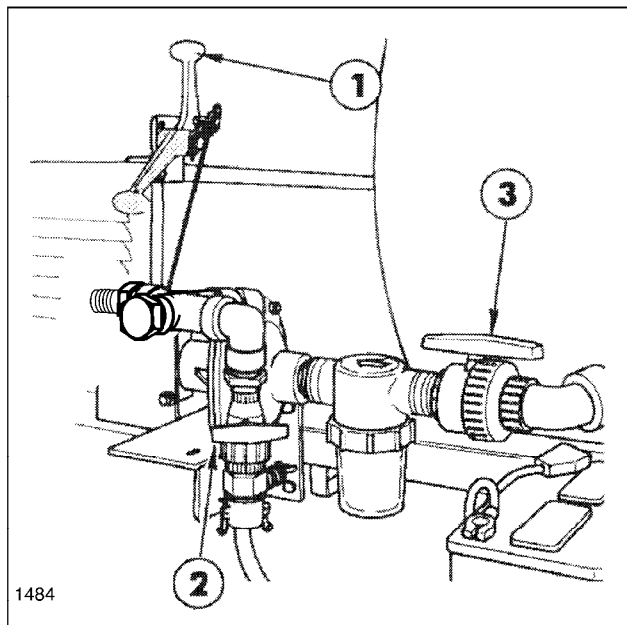

FIG. 1
**PUMP ENGAGEMENT LEVER:** Pivot the Pump Engagement Lever **DOWN** to lower the Centrifugal Pump and **ENGAGE** the Drive Belt. Pull **UP** to **DISENGAGE** the drive belt. See FIG 1.